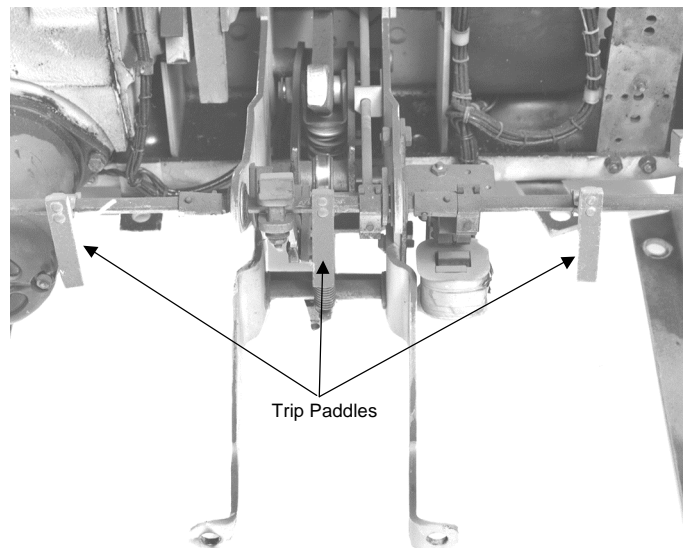

Figure 8. Existing trip paddles to be removed.
1. Remove and discard the three trip paddles on the trip actuator bar, as shown in Figure 8.